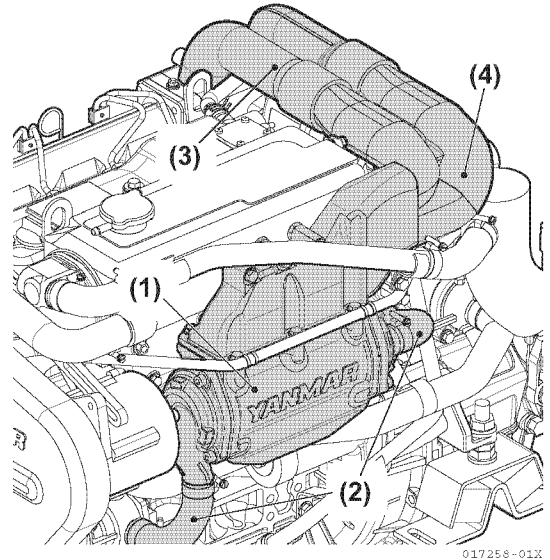

Figure 5-193
- Install the air duct from the turbocharger to the inter cooler (Figure 5-193).